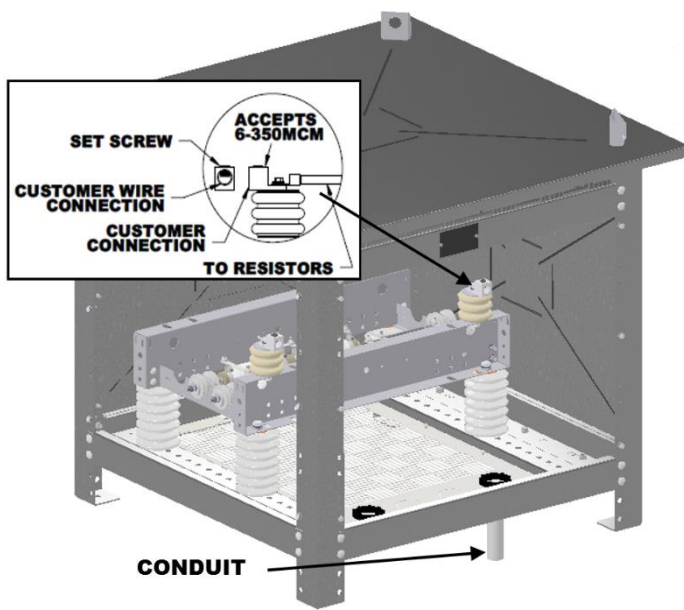

Figure 3: Wirewound or edgewound resistors
3. For wirewound or edgewound type (and some grid type) resistors, the connection is made to a terminal point separate from the resistor. This configuration prevents undue stress on the actual elements. The neutral terminal is tagged for easy identification. Location of the conduit is the customer's responsibility. (See Figure 3.)
2. With the cables entering via rigid conduit from the bottom of the enclosure, the phase connections are made directly on the X1, X2, and X3 terminals of the grounding transformer. A compression type lug or NEMA 2/4 hole pad is used for terminal connection. Alternately, the lug or terminal may be mounted on a stand-off insulator to simplify installation. Location of the conduit is the customer's responsibility. (See Figure 3)
For wirewound or edgewound type resistors, the connection is made to a terminal point separate from the resistor. This configuration prevents undue stress on the actual elements. The ground terminal is tagged for easy identification. Location of the conduit is the customer's responsibility. (See Figure 3.)